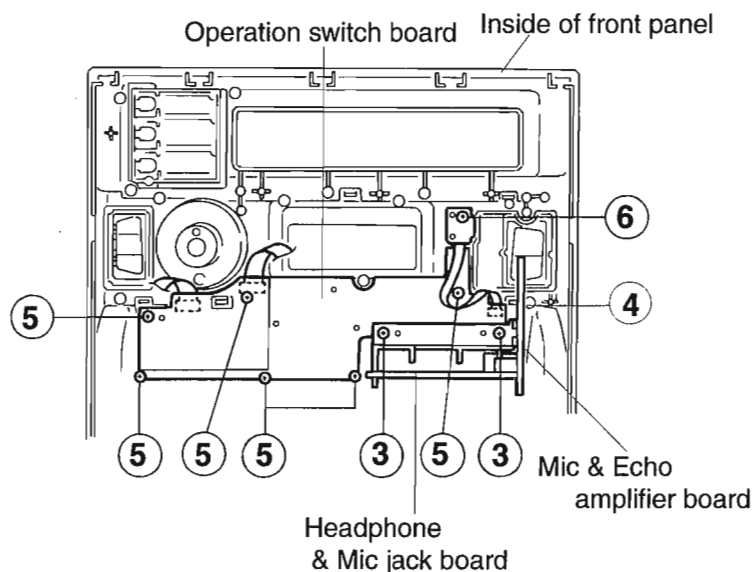

Fig. 3-22
11. Remove the screw ④ fastening the Mic & Echo amplifier board from the headphone & Mic jack board assembly. (See Fig. 3-22,22a)
12. Remove the six screws ⑤ fastening the operation switch board. (See Fig. 3-22,22a)
13. Remove the screw ⑥ fastening the LED standby board.